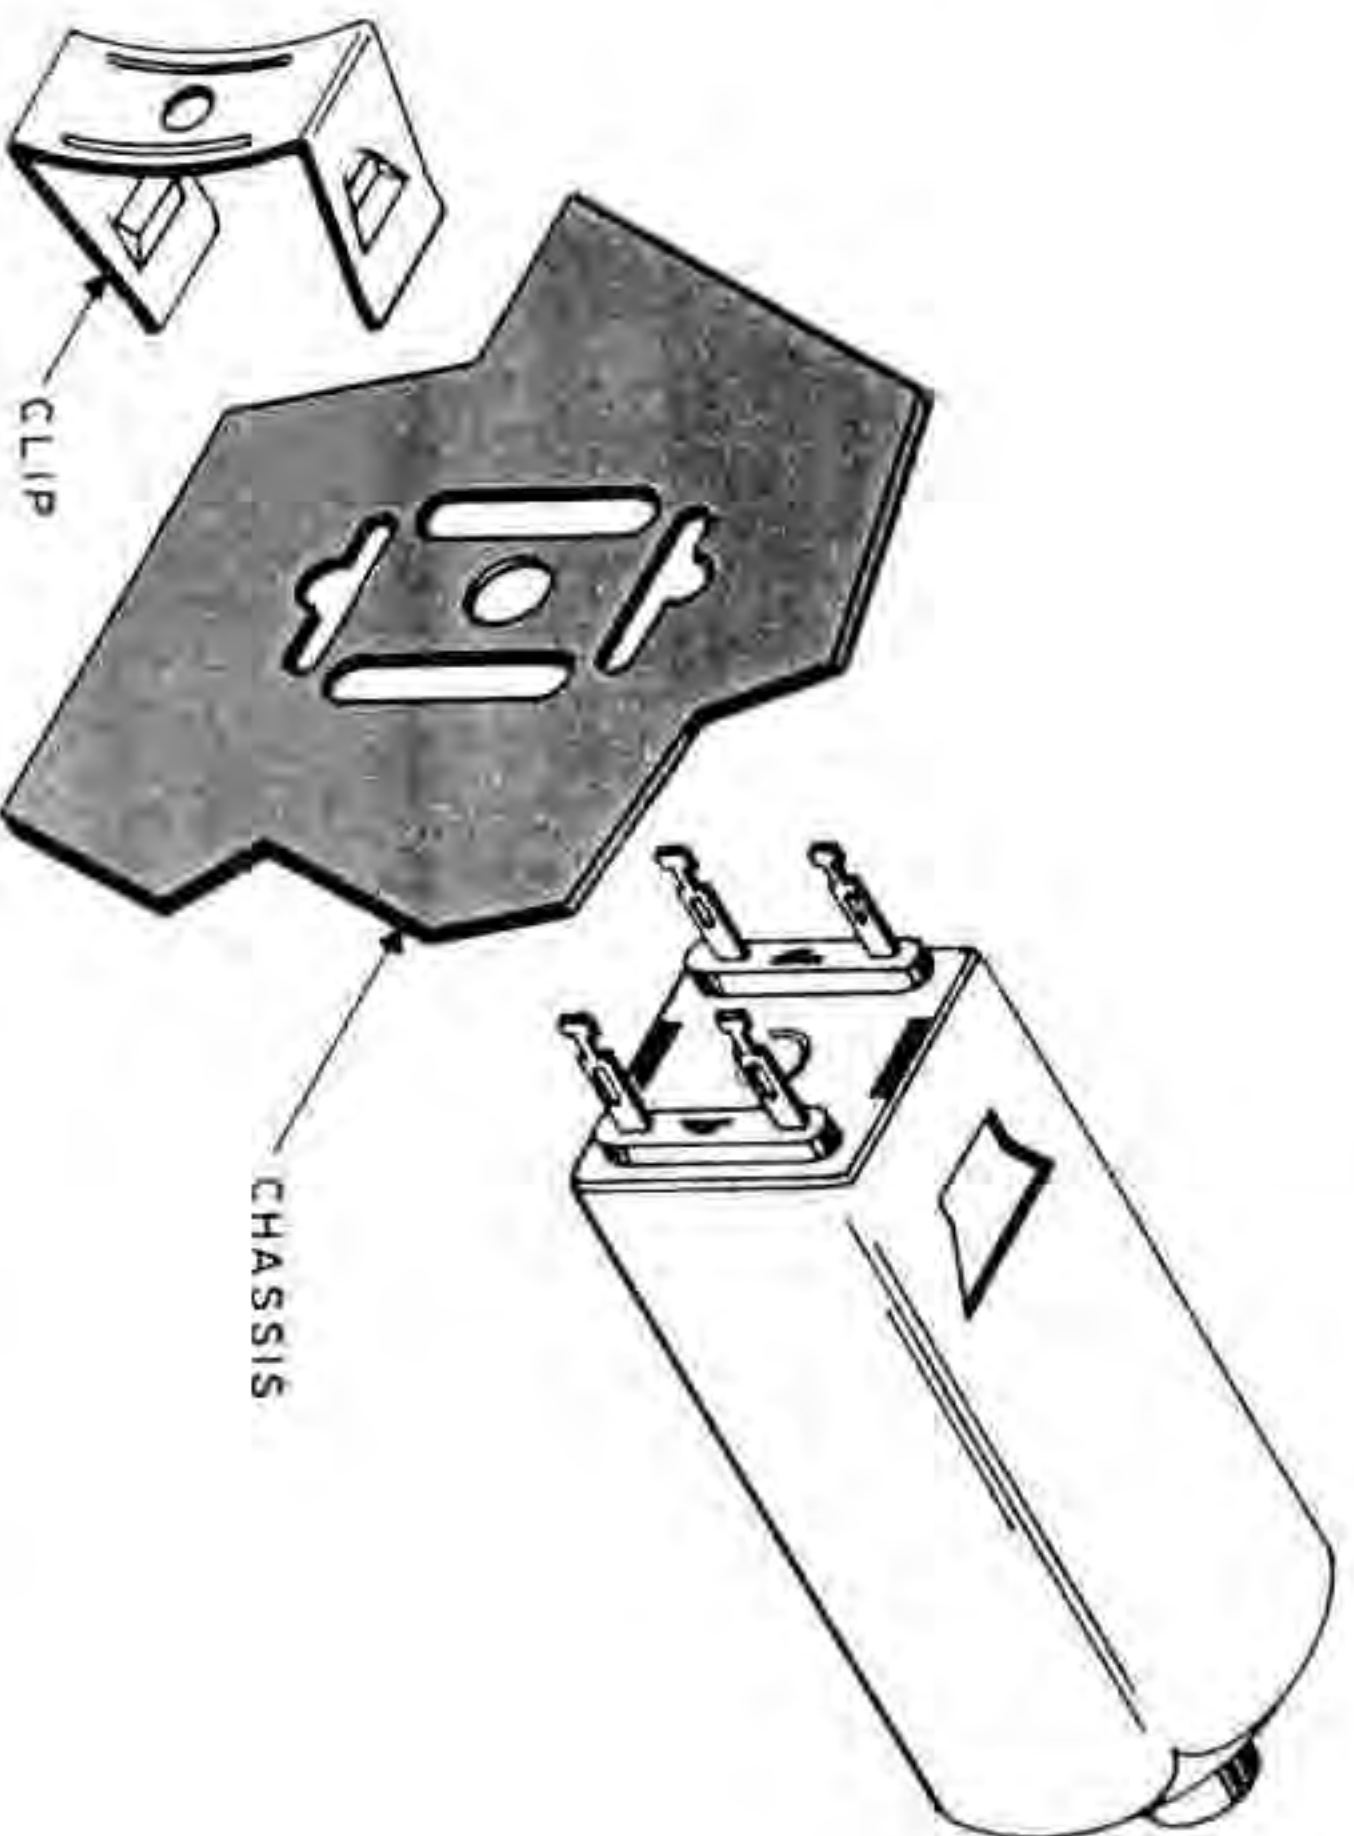

FIGURE 8. DETAIL FOR MOUNTING T-1 AND T-2
- T-1, IF transformer stamped T-1. Position the color dot as shown in Figure 1. Mount with a "U" clip as shown in Figure 8.